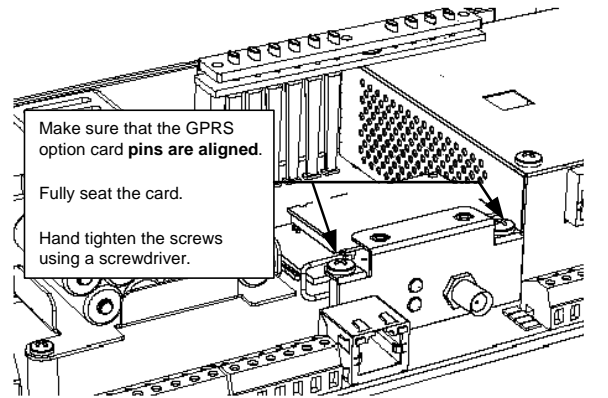

Figure 6: GPRS Modem Option Card Inserted, Screws Tightened
7. Place the two screws through the option card end plate and into the standoffs on the FX22/FX62 Supervisory Controller base board. Hand tighten these screws (see Figure 6).